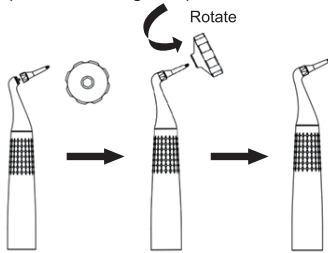

Figure 1
2.2 Install an accessory nozzle before use. Screw in the nozzle to the top of the subgingival handpiece, and then tighten the nozzle with a wrench (as shown in Figure 1).